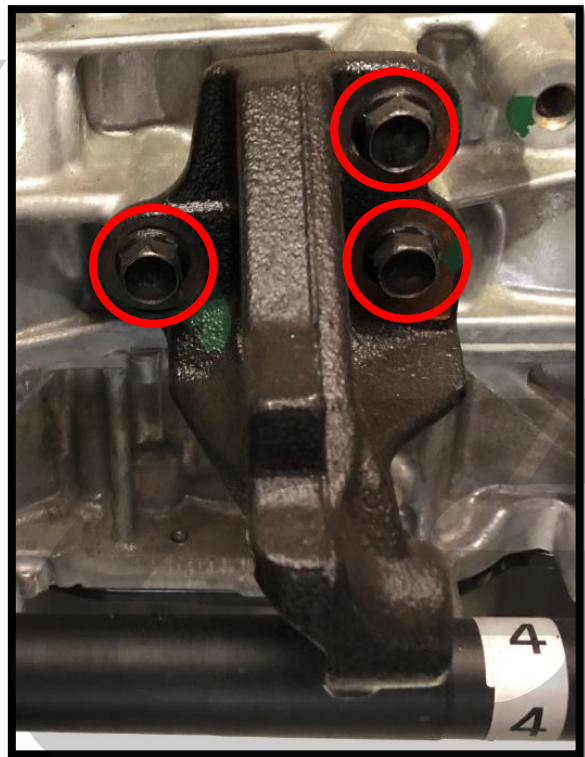

Figure 4j
- m) Remove the three 14mm bolts from the support bracket near the engine oil pan. This is the same location where the OEM header was unbolted in Step 4c. Shown **circled in red** in **Figure 4j**.